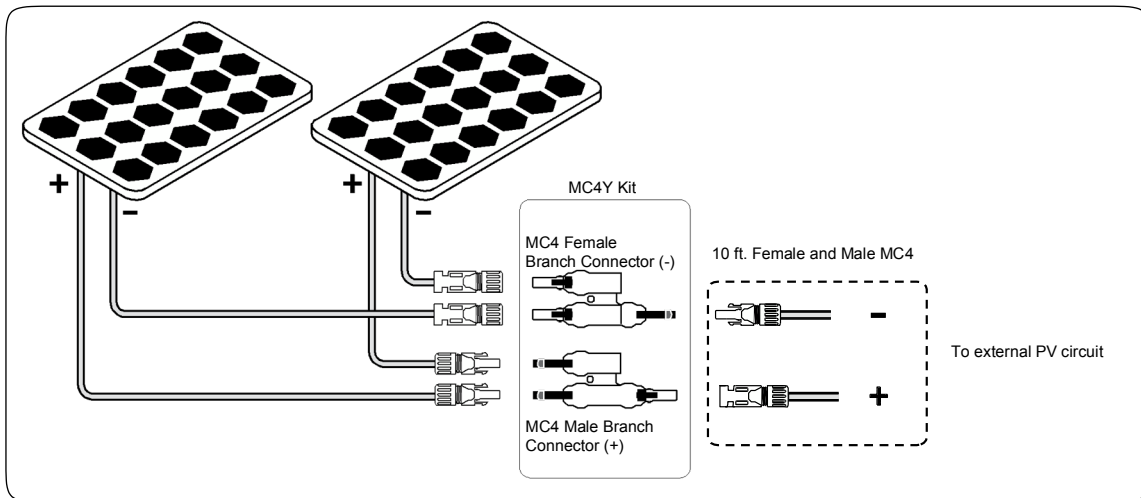

Fig. 5.5. Connecting two adjacent solar panels in parallel.
5.5. Connecting Two Adjacent Solar Panels in Parallel (Fig. 5.5)
Two or more solar panels can be connected in parallel to increase the current output while the output voltage remains the same. Fig. 5.5 above shows the arrangement for connecting two solar panels in parallel using the 10 ft. Female and Male MC4 wires and one MC4 Branch Connector Kit (MC4Y). This arrangement is applicable if the two solar panels are to be mounted adjacent to one another.